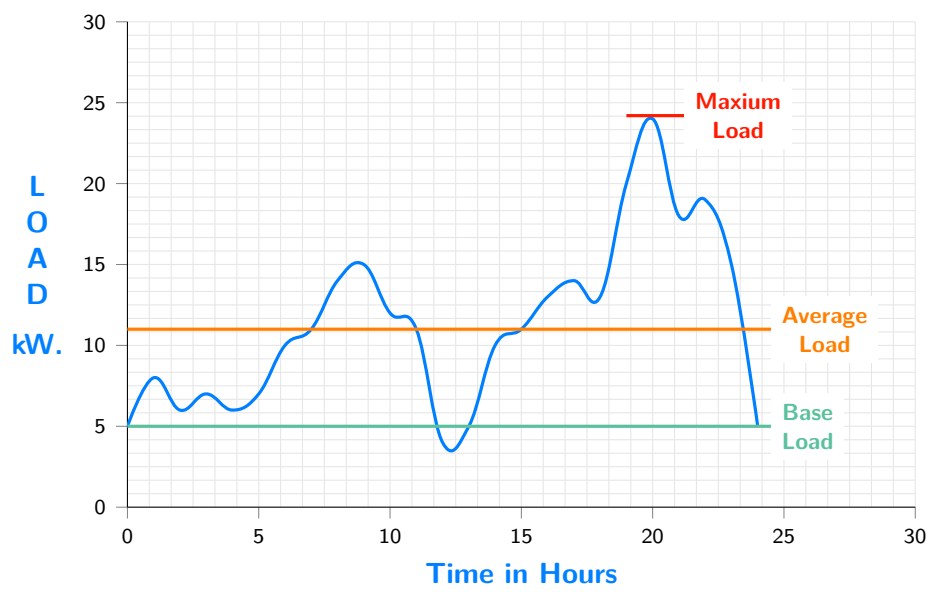

Figure 3.2: An elaborated demonstration of pgfplot capabilities
- fig. 3.2 on page 12
- Did you know that on page 12 we find fig. 3.2